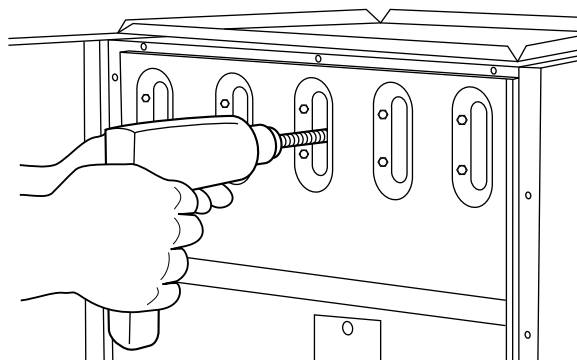

Fig. 47 - Cleaning Heat Exchanger Cell
- (2.) Insert brush end of cable into the outlet opening of cell and slowly rotate with drill. DO NOT force cable. Gradually insert cable into upper pass of cell. (See Fig. 47.)